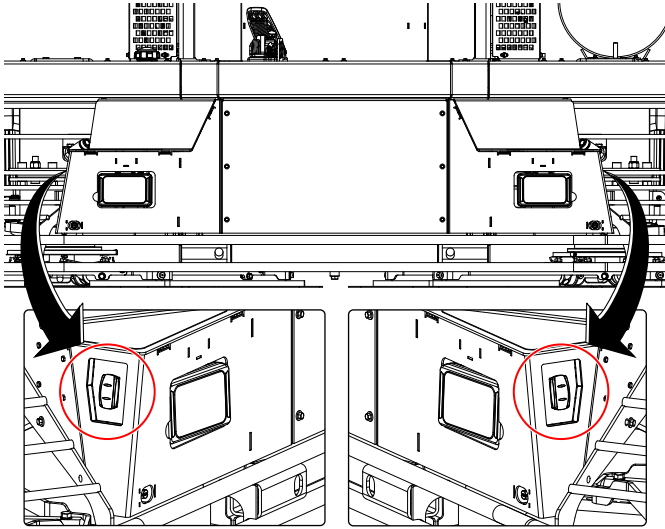

Figure 93. Drive Bypass Switches
6. To finish installing the float pan onto the remaining finisher blades, turn the rotors by pressing and holding the left or right drive bypass switch (Figure 93) and the foot pedal.